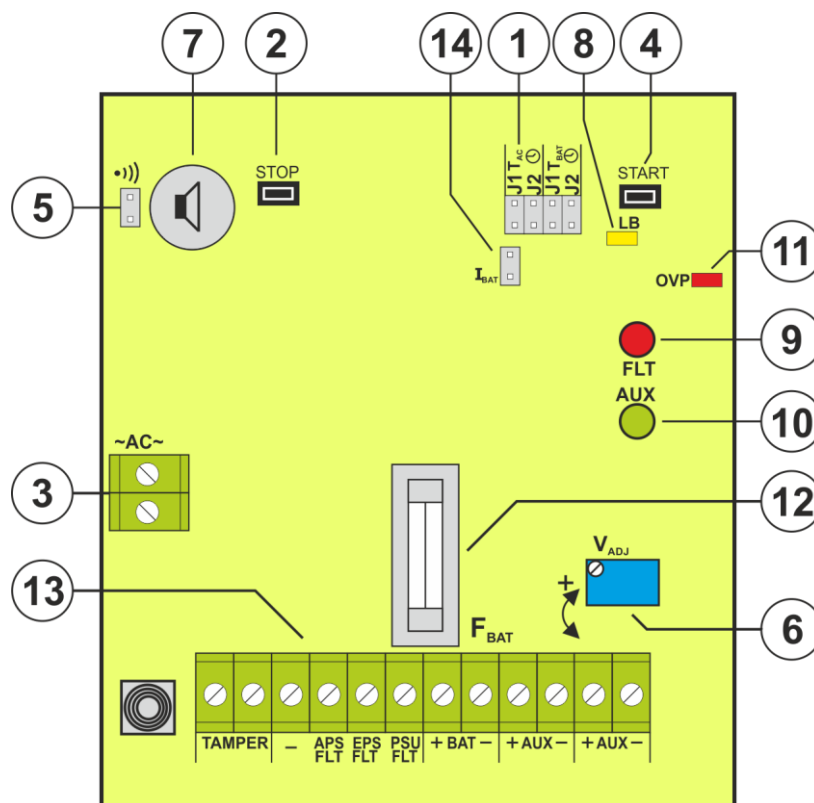

Fig. 2. The view of the PSU pcb.
**Table 1. Elements of the PSU pcb (see Fig 2).**
①	Isolation transformer
②	Pcb of the PSU (Tab. 1, Fig. 2)
③	TAMPER; micro switch of tamper protection (NC)
④	L-N 230 V power supply connector,  protection connector
⑤	F MAIN fuse in the battery circuit 230 V, T500mA / 250 V
⑥	Battery connectors +BAT = red, - BAT = black